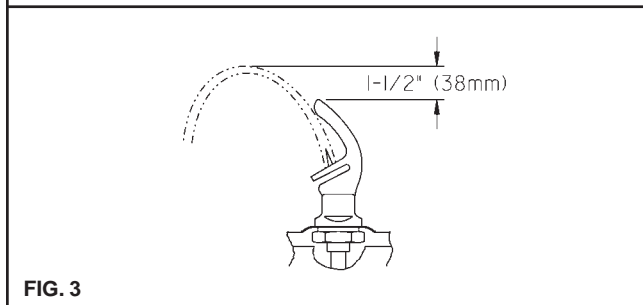

FIG. 3
- 8. Check stream height from bubbler.** Stream height is factory set at 45-50 PSI. If supply pressure varies greatly from this, adjust the screw on regulator (item 14, on page 1). Clockwise adjustment will raise stream height and counter-clockwise will lower stream height. For best adjustment stream height should be approximately 1-1/2" (38mm) above the bubbler guard. (See Figure 3)